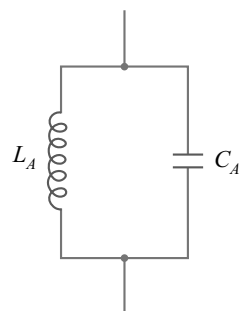

Fig. 14.4
3. An antenna or aerial in its simplest form is a vertical conductor of height  $h$ . We know that a straight conductor has inductance distributed along its length and self-capacitance. Therefore, an antenna has inductance  $L_A$  and capacitance  $C_A$ . The equivalent circuit of an antenna or aerial is a parallel tuned  $LC$  circuit as shown in Fig. 14.4. Clearly, the resonant frequency of this parallel tuned circuit depends upon the height  $h$  and is called *natural frequency* of the antenna. In practice, the value of  $L_A$  is very small. In order to obtain resonance at the desired frequency, additional inductance is connected in series with the antenna. The additional inductance does not change the physical length of the antenna but increases the inductance of the antenna significantly.